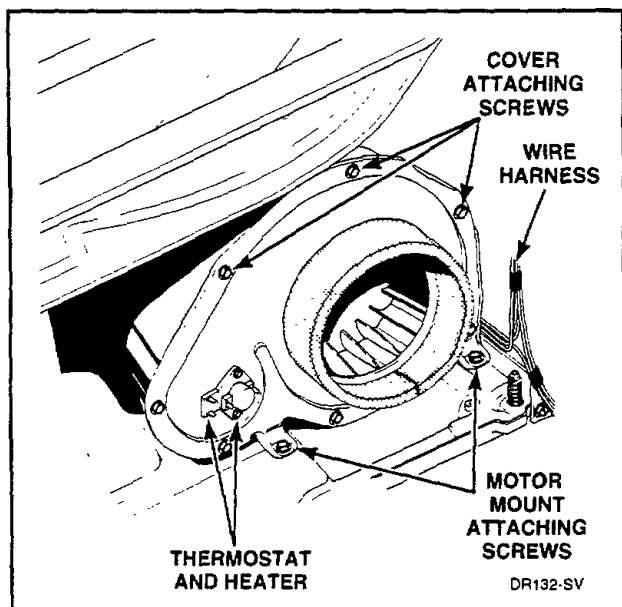
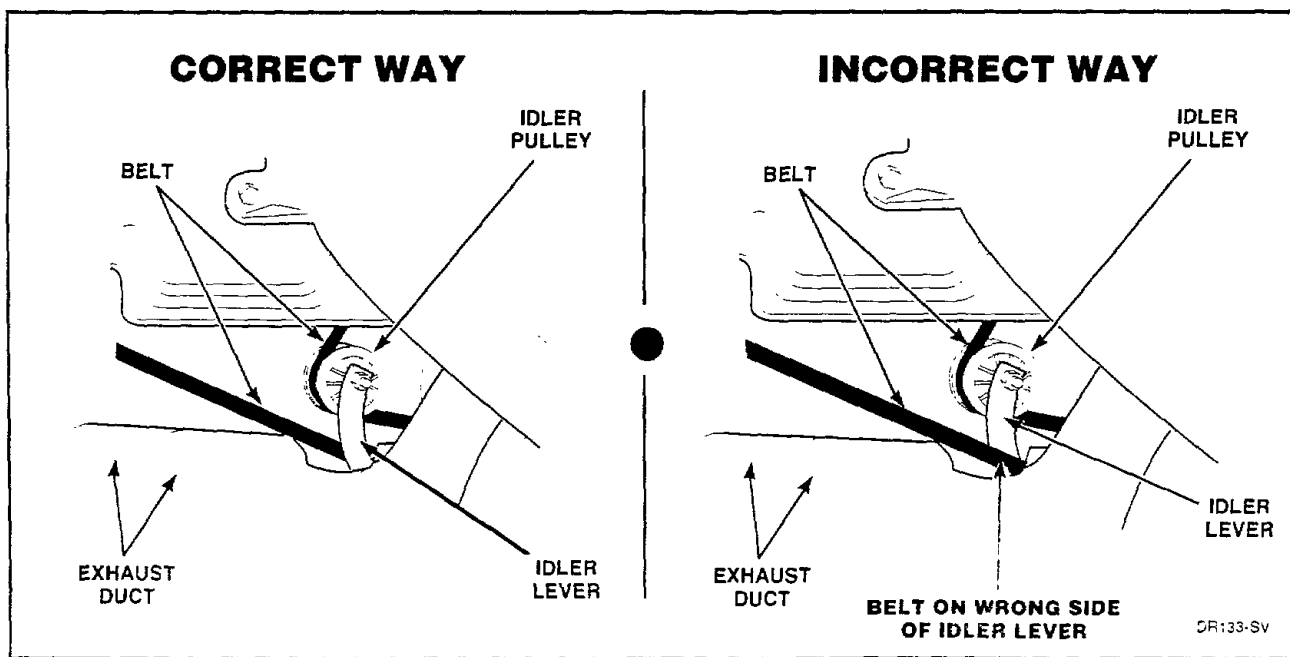
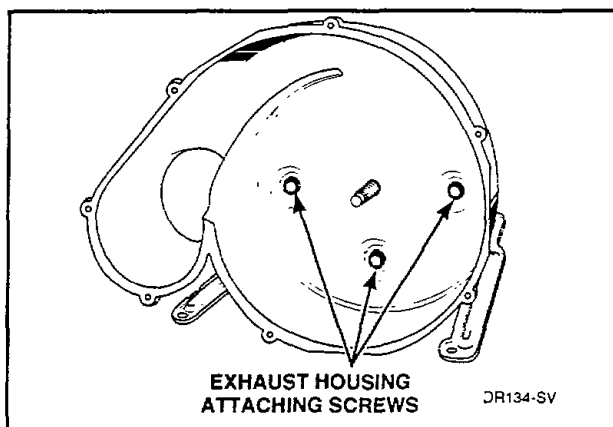

Figure 31
Figure 32
Figure 34
- e. Disconnect wires from thermostat and heater, *Figure 31*.
- f. Remove cylinder belt from idler and motor pulleys, *Figure 32*.
**NOTE:** When installing belt, make sure belt is properly installed on motor and idler pulleys, and is on the correct side of the idler lever, *Figure 32*. Belt must be positioned around cylinder approximately three inches ahead of the rear rib on cylinder, *Figure 39*, with the ribbed surface of the belt against the cylinder. After installing belt, manually rotate cylinder **counterclockwise** to check that belt is properly aligned.
- h. Remove two screws holding motor mounting bracket to dryer base, *Figure 31*.
**IMPORTANT:** When reinstalling motor and exhaust assembly, make sure wire harness on right side is clipped to motor mounting bracket and is routed along dryer base (between motor mounting bracket and right side of cabinet), *Figure 31*. Tab on rear of motor mounting bracket must be slid into slot in dryer base. Make sure the belt has been installed on the correct side of the idler lever, *Figure 32*.
- (1) Remove screws holding cover to housing, *Figure 31*.
- (2) Hold motor pulley securely and unthread impeller from motor shaft (right hand thread). Use a 7/8 inch, six point socket to aid in the removal of the impeller.
- (3) Remove three screws holding the exhaust housing to the motor mounting bracket, *Figure 34*.
- Disengage belt from motor and idler pulleys, *Figure 32*.
**NOTE:** When installing belt, make sure belt is properly installed on motor and idler pulleys, and is on the correct side of the idler lever, *Figure 32*. Belt must be positioned around cylinder approximately three inches ahead of the rear rib on cylinder with the ribbed surface of the belt against the cylinder. After installing belt, manually rotate cylinder **counterclockwise** to check that belt is properly aligned.